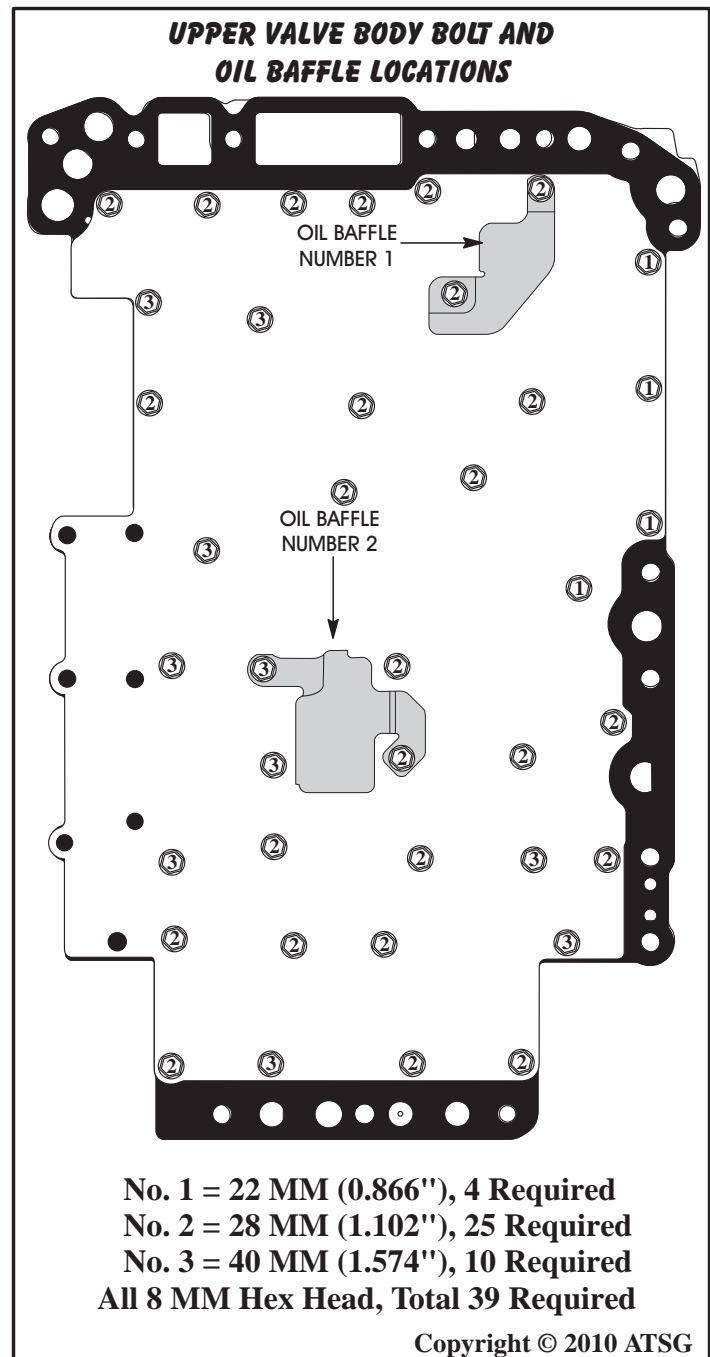

Figure 182
*Note: are 3 different lengths of bolts on this side of the valve body and their length and their position is shown in Figure 182.*